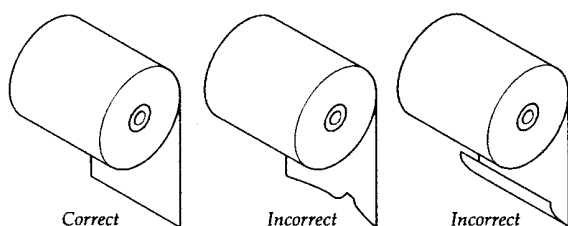

Figure 3-5. Preparing the Paper
1. Using a new roll paper, unroll the paper and cut the end as shown in Figure 3-5.